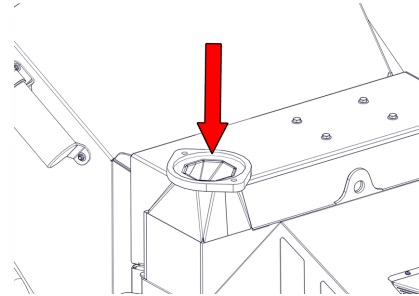

Figure 28 - Discharge flange - tube removed
3. Remove all traces of old grease and dirt from the discharge tube flange and the mounting flange (Figure 28).